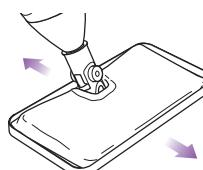

fig. 14
- Move the Steam Mop back and forth across a section of the carpet. (fig. 14)